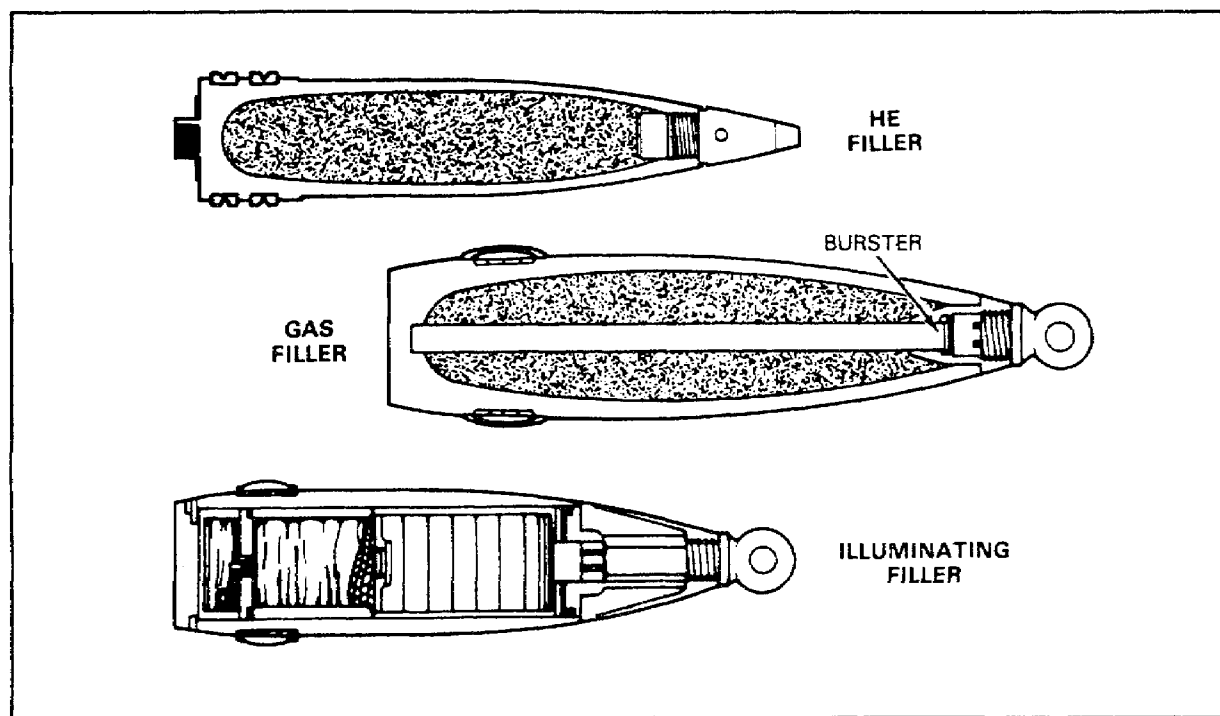

Figure 8. Examples of Artillery Service Ammunition.
Service Ammunition. Service ammunition (Figure 8) is used for combat and live-fire training. Service ammunition can be further classified as: high-explosive (HE), antipersonnel (apers), high-explosive rocket-assisted (HERA), high-explosive antitank (HEAT), armor-piercing (AP), armor-piercing discarding sabot (APDS), chemical (smoke or gas), illuminating (parachute flare, base-ejected), or leaflet (countermeasure). The type of service ammunition is identified by color code and markings. Ammunition of uncertain identity will not be issued.